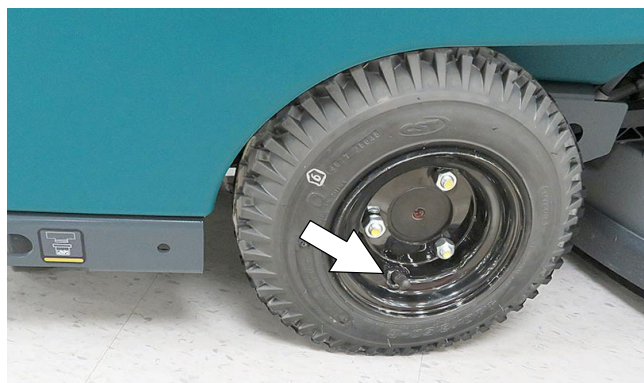

FIG. 112
4. Check tire pressure if equipped with the pneumatic (air-filled) tires (Figure 112). The proper tire pressure is 60 to 65 psi (415 to 450 kPa).